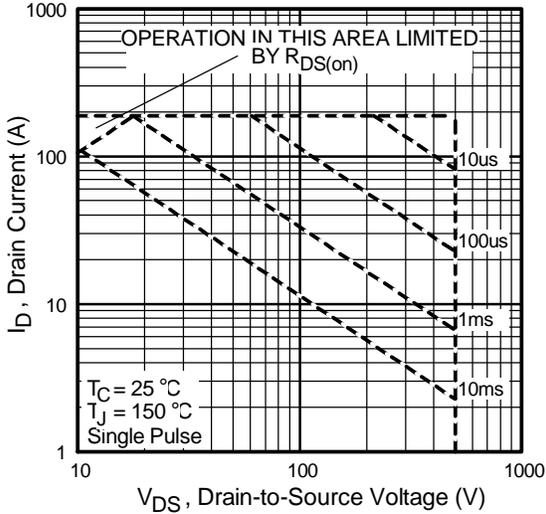

Fig 12. Maximum Safe Operating Area
- ② Starting $T_J = 25^\circ\text{C}$, $L = 0.86\text{mH}$, $R_G = 25\Omega$, $I_{AS} = 46A$. (See Figure 12).
- ③ $I_{SD} \leq 46A$, $di/dt \leq 550A/\mu s$, $V_{DD} \leq V_{(BR)DSS}$, $T_J \leq 150^\circ\text{C}$.
④ Pulse width $\leq 400\mu s$; duty cycle $\leq 2\%$.
- ⑤ $C_{oss \text{ eff.}}$ is a fixed capacitance that gives the same charging time as C_{oss} while V_{DS} is rising from 0 to $80\% V_{DSS}$.